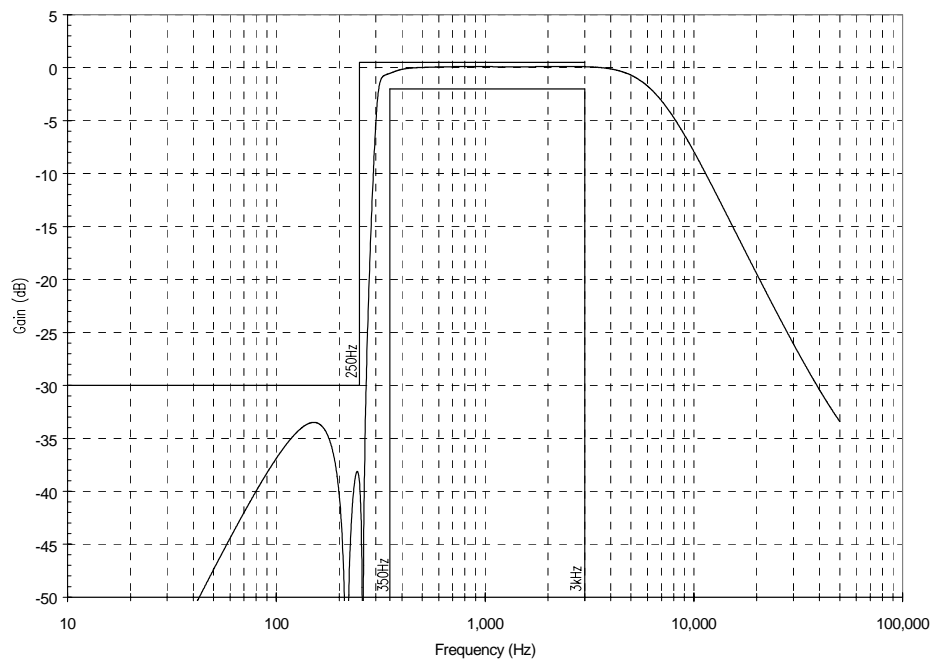

Figure 5 Audio Band-Pass Filter Frequency Response
6. See filter response (Figure 5).